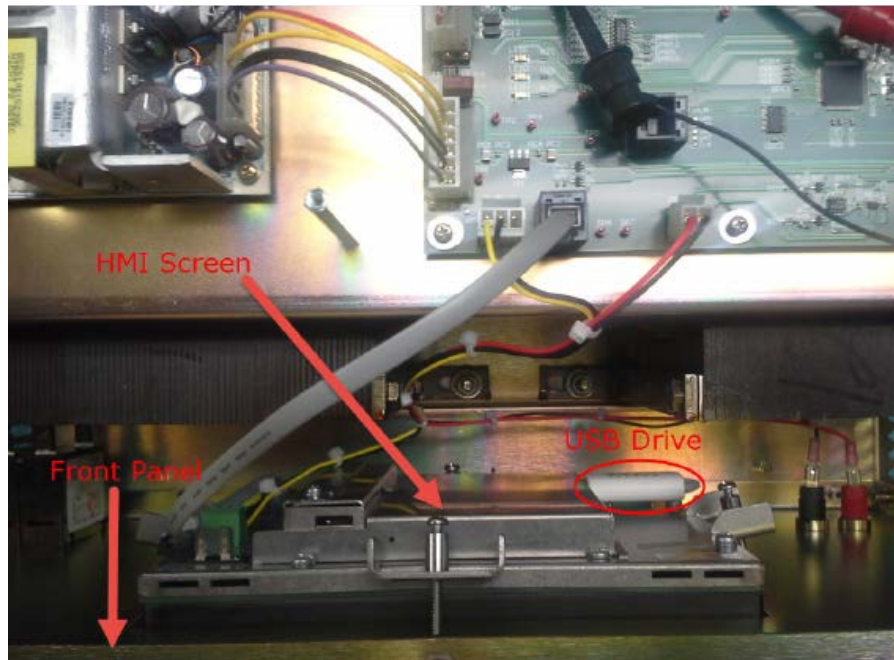

Figure 3
- c. Insert the USB Drive provided in step 1 above into the USB port on the right side of the HMI screen (See figure 3 below):